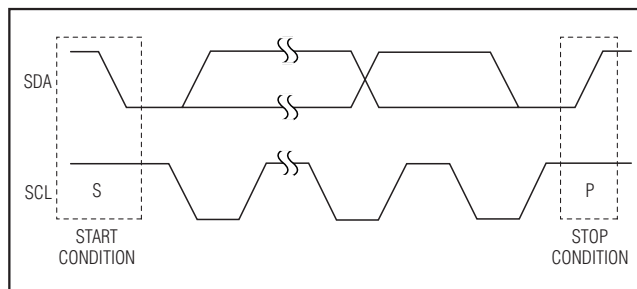
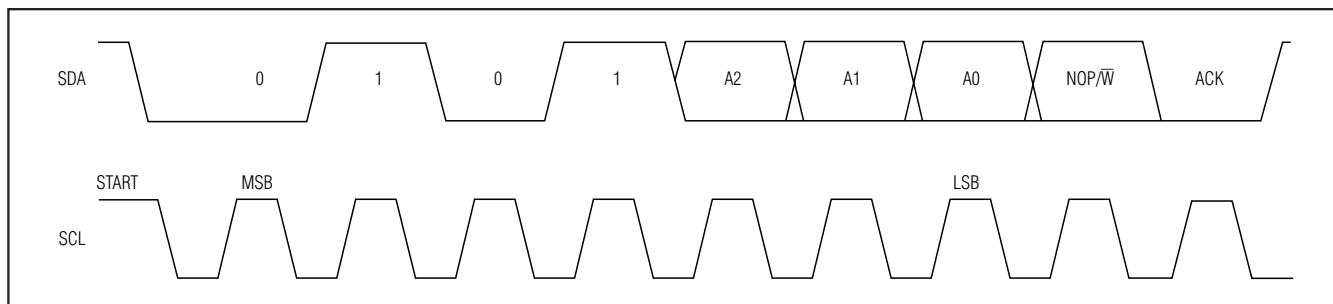

Figure 3. START and STOP Conditions
Figure 4. Slave Address
Each transmission consists of a START (S) condition (Figure 3) sent by a master, followed by the MAX5477/MAX5478/MAX5479 7-bit slave address plus the NOP/ $\bar{W}$ bit (Figure 4), 1 command byte and 1 data byte, and finally a STOP (P) condition (Figure 3).
communicating with the slave. The bus is then free for another transmission (Figure 3).
The MAX5477/MAX5478/MAX5479 have a 7-bit-long slave address (Figure 4). The 8th bit following the 7-bit slave address is the NOP/ $\bar{W}$ bit. Set the NOP/ $\bar{W}$ bit low for a write command and high for a no-operation command.